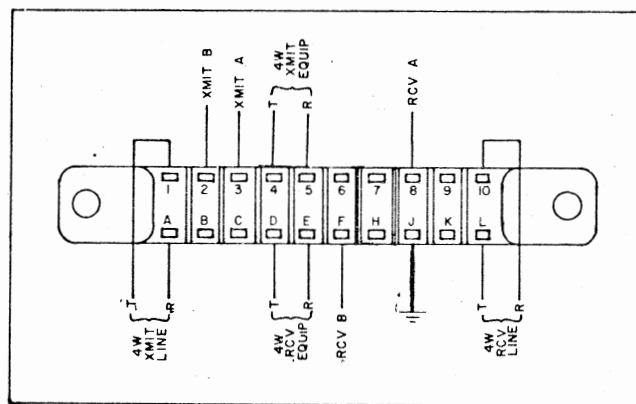

Fig. 8
F. 787B: This unit like the 787A includes pads and 600/900 ohm impedance matching transformers, however, instead of balance SX leads, this transformer has a split winding configuration to accommodate COMPOSITE or similar type signaling. See FIG. 8 and TABLE D for wiring information and FIG. 9F (schematic drawing). Also refer to 4.01 regarding procedure for inserting 89 type pads.
G. 787BV: This unit is the same as the 787B except that it includes adjustable T pads for setting the 4-wire levels. See FIG. 8 and TABLE D for wiring information and FIG. 9G (schematic drawing). Also refer to paragraph 4.02 for setting pad values.